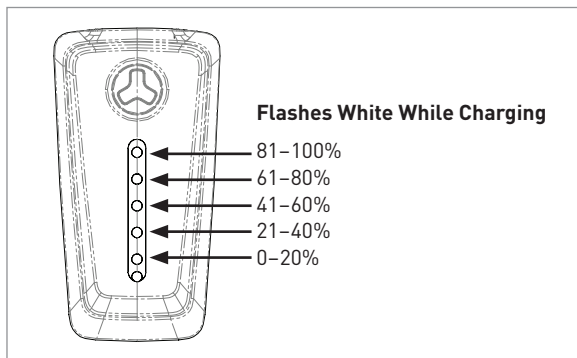

Figure 8
6. Progress of charging can be checked at any time by holding the left ROAD CONTROL button for a few seconds. A series of 1 to 5 white LEDs will illuminate on the CONTROL HUB (Fig. 8). The total number of solid lights indicates the % of charging completed, in 20% increments. The flashing white light indicates the next 20% of battery capacity being charged. Once the fifth white flashing light goes solid, all five lights will change to a solid green color, indicating the charging is complete. For more accurate charging progress, the FAZUA app can be used to report the batteries SOC to the nearest 1%.